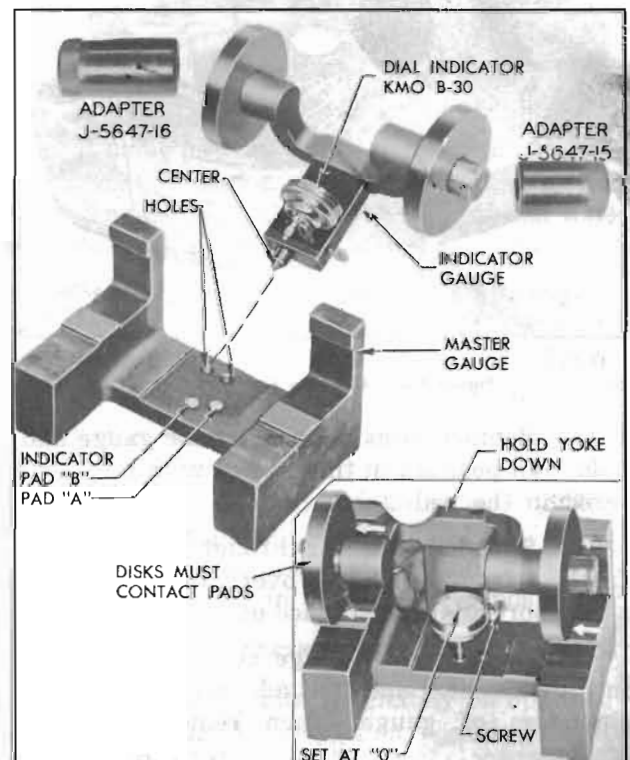

Figure 6-30—Pinion Setting Gauge J-5647 and Adapters
The dial indicator type Pinion Setting Gauge J-5647 is used with adapters to provide a fast and accurate method of checking pinion location; it gives a direct reading on a dial indicator that does not require computation or reference tables. See figure 6-30.
Pinion Setting Gauge J-5647 consists of a "master gauge" and an "indicator gauge" upon which a dial indicator is mounted. Adapters J-5647-17 are not used when "zeroing the gauge," but are used in place of the discs when checking the pinion setting. See figure 6-30.
2. Install the discs on the "indicator gauge" and install the small contact button on the stem of the dial indicator. Mount the dial indicator on the indicator gauge. See figure 6-30.